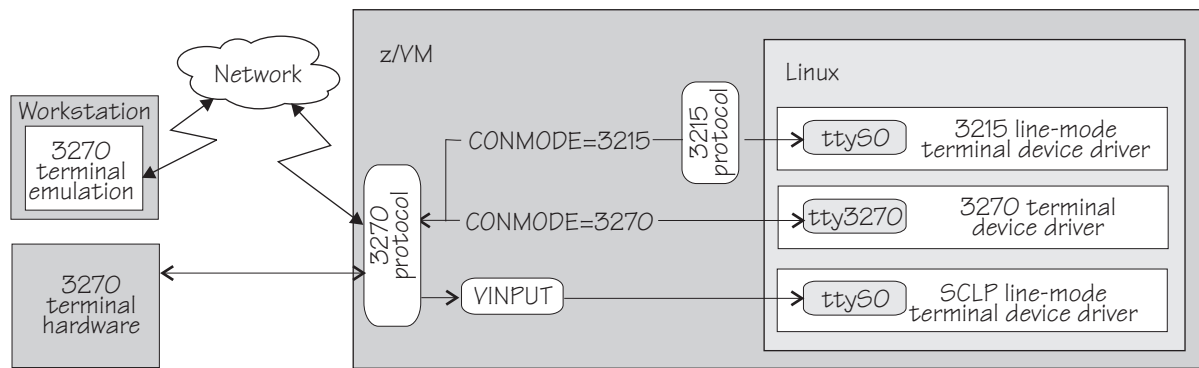

Figure 12. Accessing terminal devices from a 3270 device
Figure 12 on page 37 illustrates how z/VM can handle the 3270 communication.
**Note:** Figure 12 shows two console devices with the name `ttyS0`. Only one of these devices can be present at any one time.